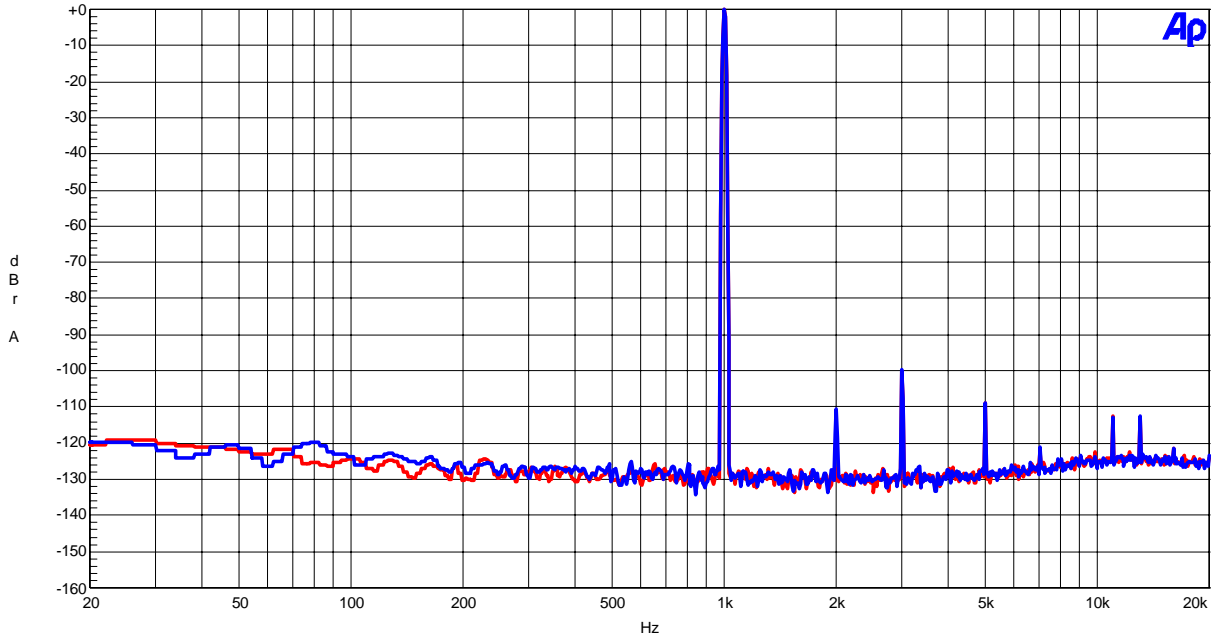

Figure 17. FFT(Input Frequency=1kHz, Input Level=0dBFS)
- Figure 17. FFT (noise floor)